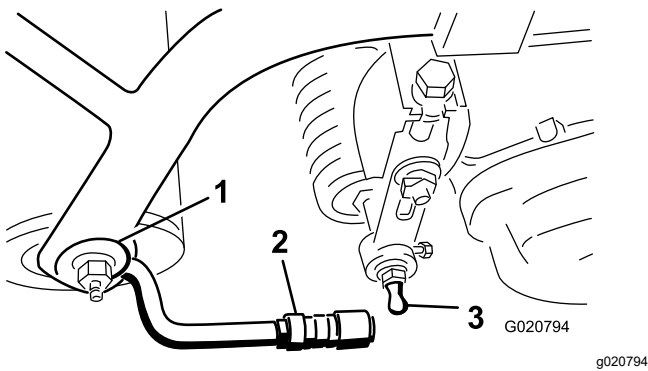

Figure 6
3. Slide the sleeve back on the ball joint receiver and hook the receiver onto the cutting unit ball stud. Release the sleeve so that it slides over the stud and locks the assemblies together (Figure 6).